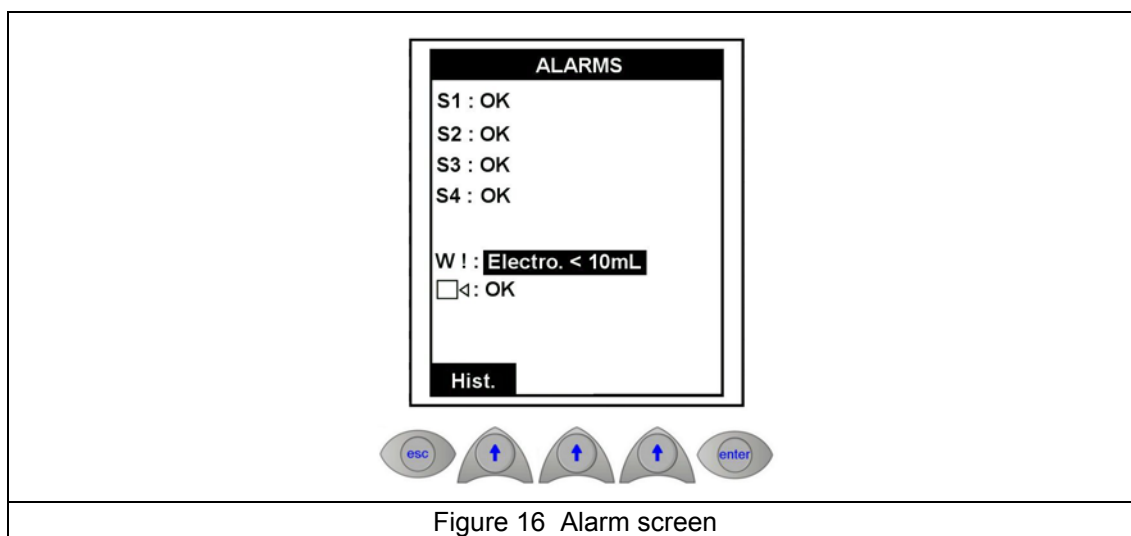

Figure 16 Alarm screen
- **Alarm** - This option will appear flashing on the screen if any alarms have been set. Selecting this option will take you to the alarms screen as illustrated in Figure 16 on page 58.